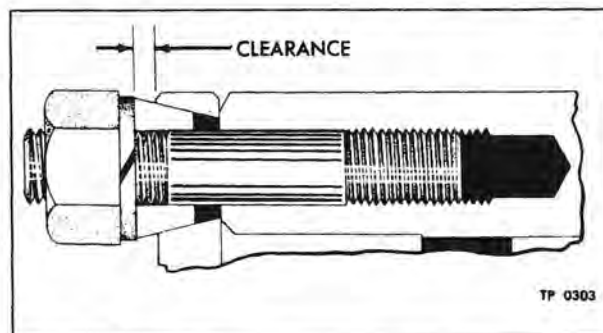

Figure 2—Clearance Between Nut And Flange
5. Observe that clearance exists between nut and flange (fig. 2). If no clearance exists, this indicates excessive wear at studs, dowels, or flange holes. Replace worn parts if necessary.